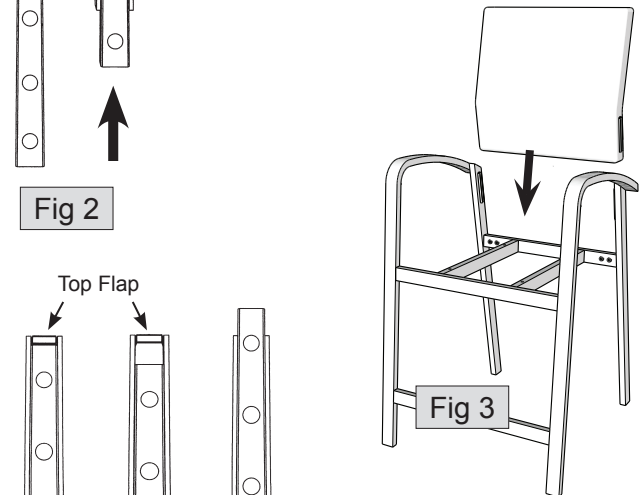

Fig 3
4. With the chair upright on a level surface, attach the back cushion to the leg frames by aligning the interlocking wedges on each side and sliding them together simultaneously, as shown in figure 3. Use care that the wedges on both sides are properly aligned and connected simultaneously. Do not attempt to insert one side ahead of the other. Use your hands to apply downward pressure to the back cushion. You should feel the wedges slide together and tighten.